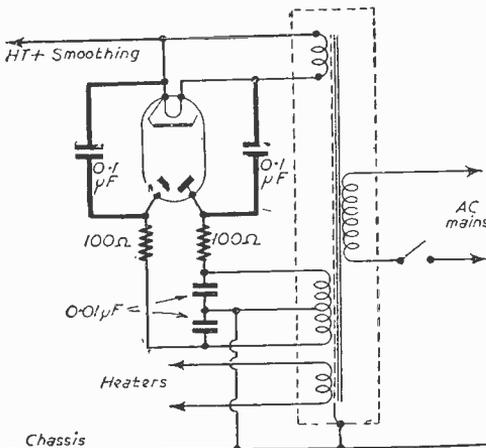

Fig. 1.—The heavy lines show the modifications to be made to avoid modulation hum.
connected across each anode and heater of the rectifier. At the same time include R.F. stoppers and filter condensers as shown in Fig. 1. The latter refinement is not necessary for the removal of modulation hum. The R.F. stoppers should have a resistance of about 100 ohms and be of about 3-watt rating. All condensers should be rated for 1,000 volt working to ensure complete safety for the rectifier.
**Rectifier (Fig. 1)**